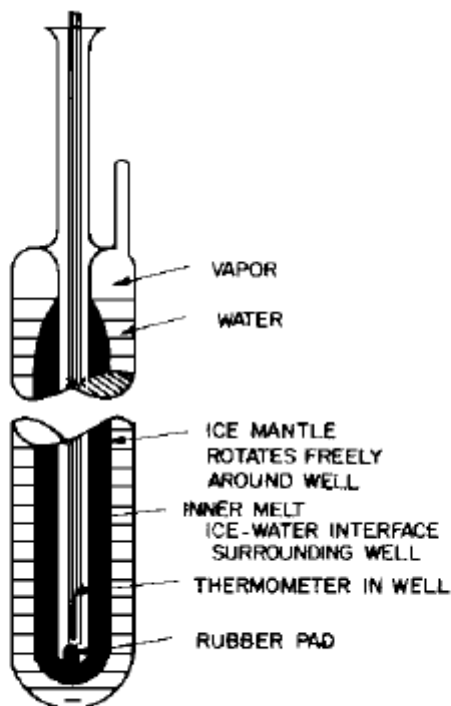

Figure 4. Terminology Relating to the triple point condition.
- Rotate cell. Ice mantle, when free, will rotate on well. Triple point temperature is now established and will be maintained until bottom of mantle melts, as evidenced by flotation mantle. (See figure 4)